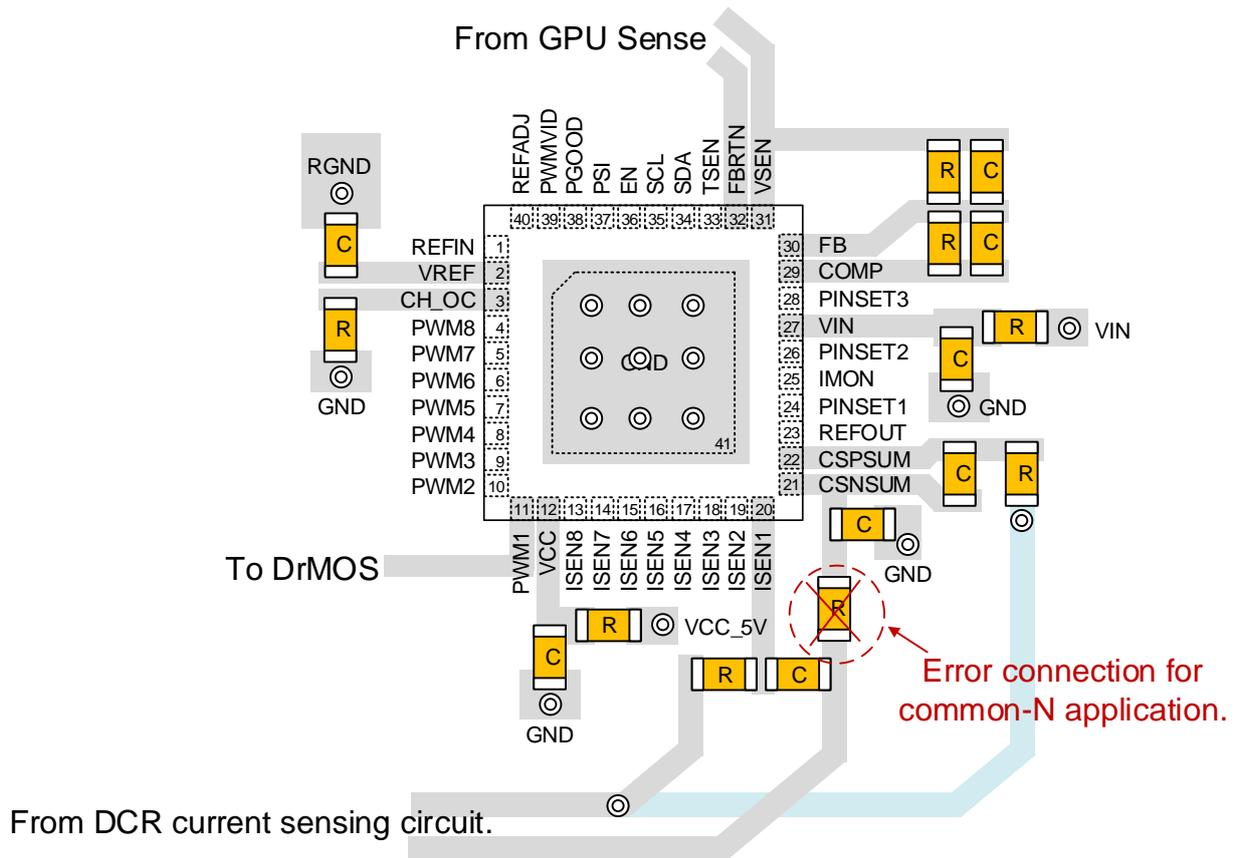

Figure 44. Error Connection for DCR Common-N Application
- ▶ When using the RT8848C with DCR current sensing type application, RESERVE a resistor (Rn) in series with DCR current sensing RC circuit to prevent large leakage current in multi-phase application. DO NOT place this resistor between inductor output node and CSNSUM pin as shown in Figure 44. This connection will make RT8848C false trigger current protection.